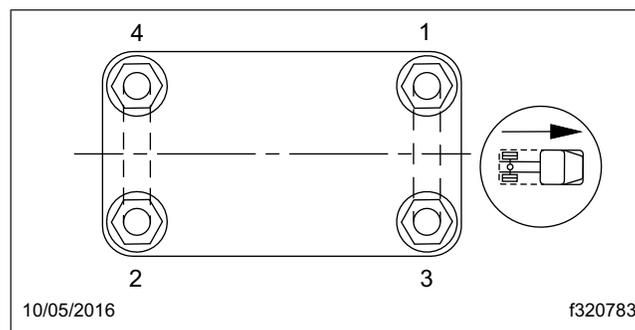

Fig. 3, Tightening Sequence for U-Bolt High Nuts
* Tighten in the sequence shown in Fig. 3.